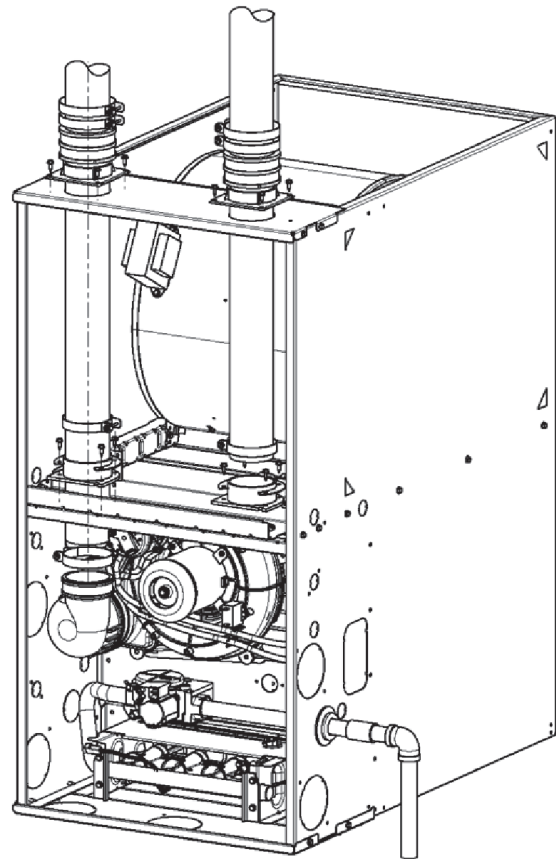
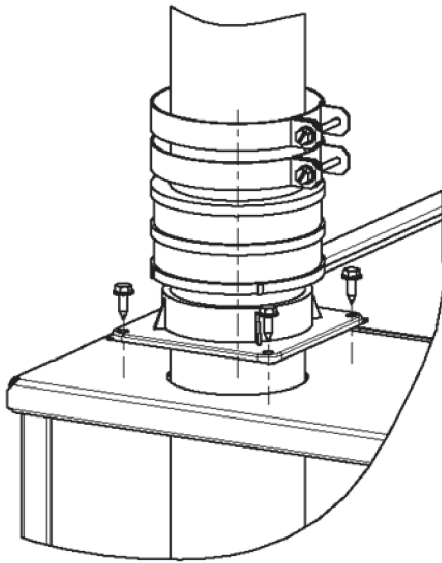

Fig. 1 - Vent/Combustion Air Pipes Through Blower Compartment (Downflow Configuration)
Fig. 2 - Detail of External Pipe Support
2. Loosen the upper clamp around the vent and combustion air pipe supports external to the furnace. See Fig. 1 and Fig. 2.
5. After disconnecting or cutting the vent and combustion air pipes, loosen both clamps at the vent and combustion air pipe grommets attached to the blower shelf of the furnace. See Fig. 1 and 3.
7. Remove remaining vent pipe and combustion air pipes through the furnace casing and set aside. If the vent and combustion air pipe are glued to the plastic adapters external to the furnace, remove the screws that secure the adapters to the furnace casing to remove the pipes. See Fig. 1 and 2.